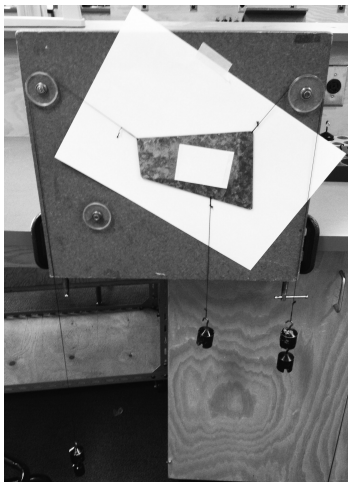

Figure 2: Vertical force board
5. Set up the force board (Figure 2) as directed by your instructor, clamping it securely to the bench. Using the strings and the masses supplied, **set up a system of three forces so that the plate is suspended in equilibrium near the centre of the force board**. Attach the two *longer* strings OVER the top pulleys. Attach the *shorter* string to the bottom of the plate so it HANGS VERTICALLY (does NOT pass over a pulley) and is NOT close to being immediately below the center of gravity of the plate. Thread the strings through the holes in the plate and back upon themselves to secure them - DO NOT TIE KNOTS. Start with 200.g on the pulley strings & 100.g on the vertical string. Make certain all masses DO NOT touch the force board (i.e. hang freely) and that EACH string has AT LEAST 100.g. Add mass as needed to center the plate on the force board. AVOID USING MANY SMALL (<50.g) MASSES.